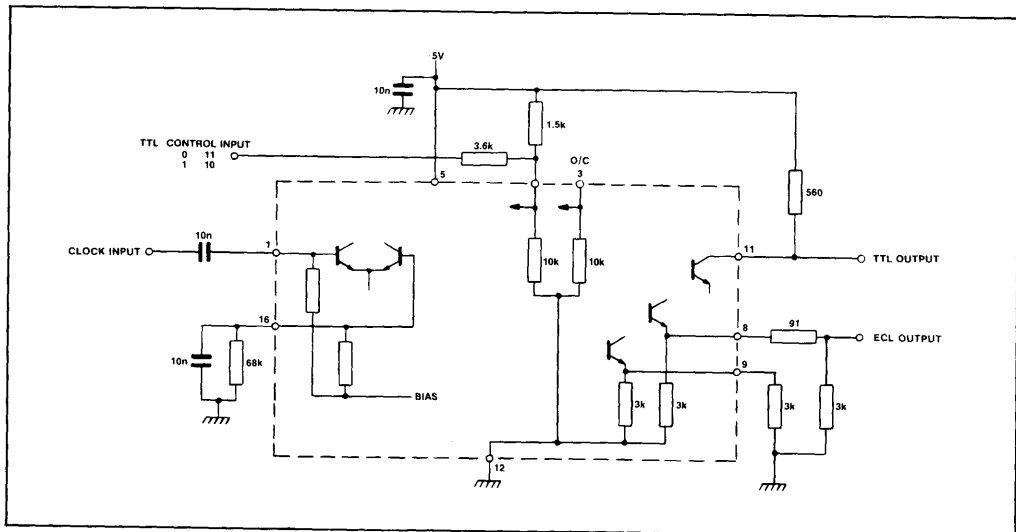

Fig.9 Typical applications circuit showing interfacing
4. The Q_4 and \bar{Q}_4 outputs are compatible with ECL II but can be interfaced to ECL 10K as shown in Fig. 9.